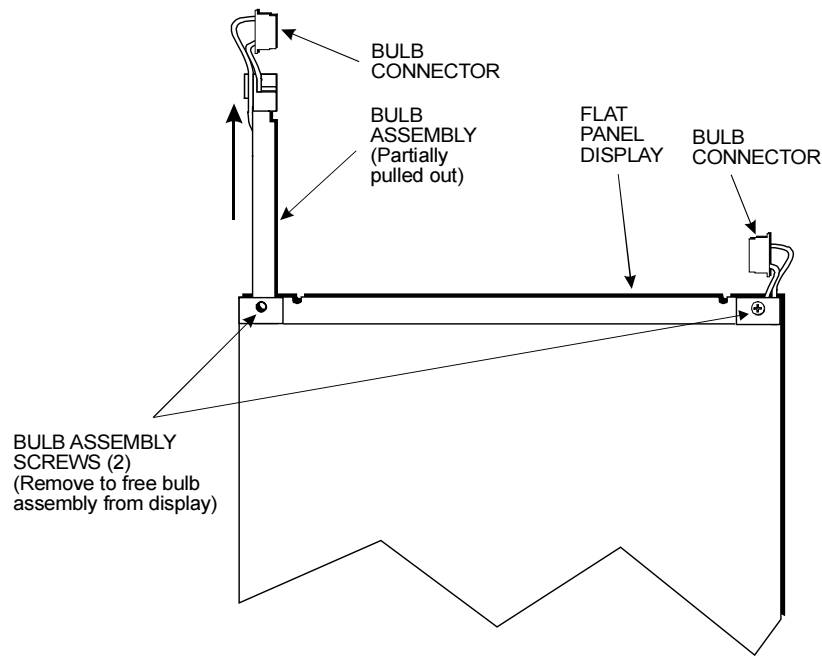

Figure D- 3. Model #LQ150X1DG1g
11. Referring to Figure D-3, unscrew the screw that secures the bulb assembly in place and slide the assembly out of the display.